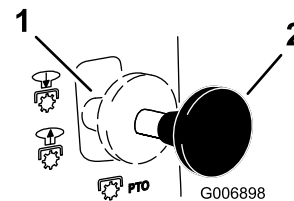

Figure 6
2. Pull the blade control (PTO) to on (Figure 6).
2. Push the blade control (PTO) to off (Figure 6).
3. Push the blade control (PTO) to off (Figure 6).